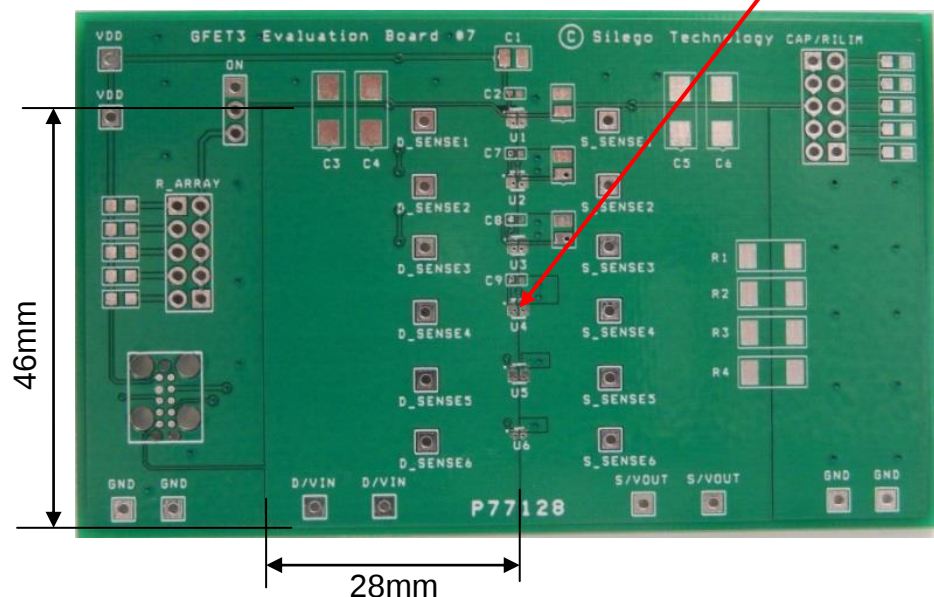

Figure 3. SLG59M1470V Evaluation Test Board
- 2.3. The D/VIN and S/VOUT pins carry significant current. Please note how the D/VIN and S/VOUT pads are placed directly on the power planes in Figure 3, which minimizes the $R_{ds(ON)}$ associated with long, narrow traces. The D/VIN, S/VOUT and GND pins dissipate most of the heat generated during high-load current condition. The layout shown in Figure 3 is illustrating a proper solution for heat to transfer as efficiently as possible out of the device.